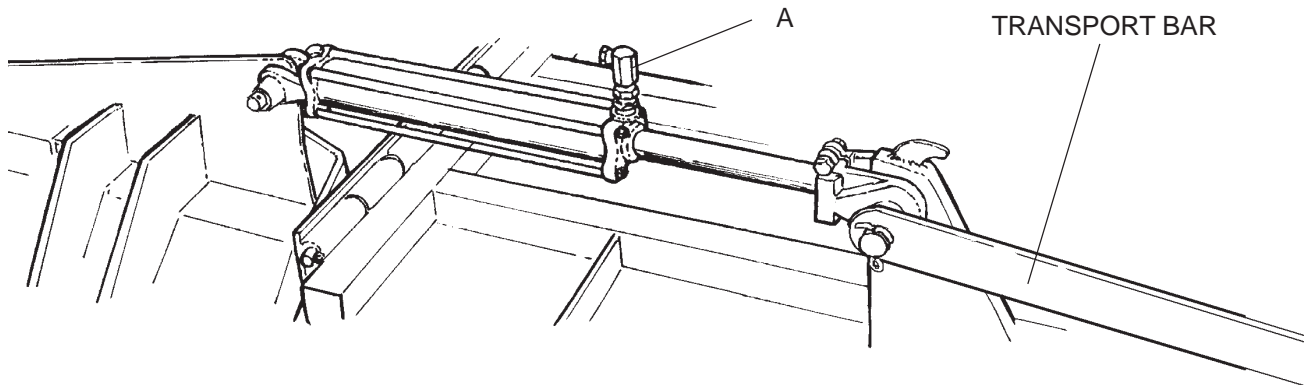

FIGURE 9. Wing Section Hydraulic Cylinder Attachment.
Mount the 14" stroke Hydraulic Cylinder butt clevis to the upright lugs on the Center Section and the rod end to lugs on wing. Make sure the ports of the Hydraulic Cylinder are facing upwards. Keep the ports capped until the hoses are attached to the tractor and are ready to attach to the cylinder ports. Make certain that the Restrictor, (A) in **FIGURE 9**, is installed properly on the gland end of the Hydraulic Cylinders to prevent fast lowering of the wings. Install the Transport Bars to retain the Wing Sections in the upright position for transport on roads and highways. When in transport keep the Center Section as low to the ground as possible to increase stability but high enough to prevent the Skid Shoes from dragging.